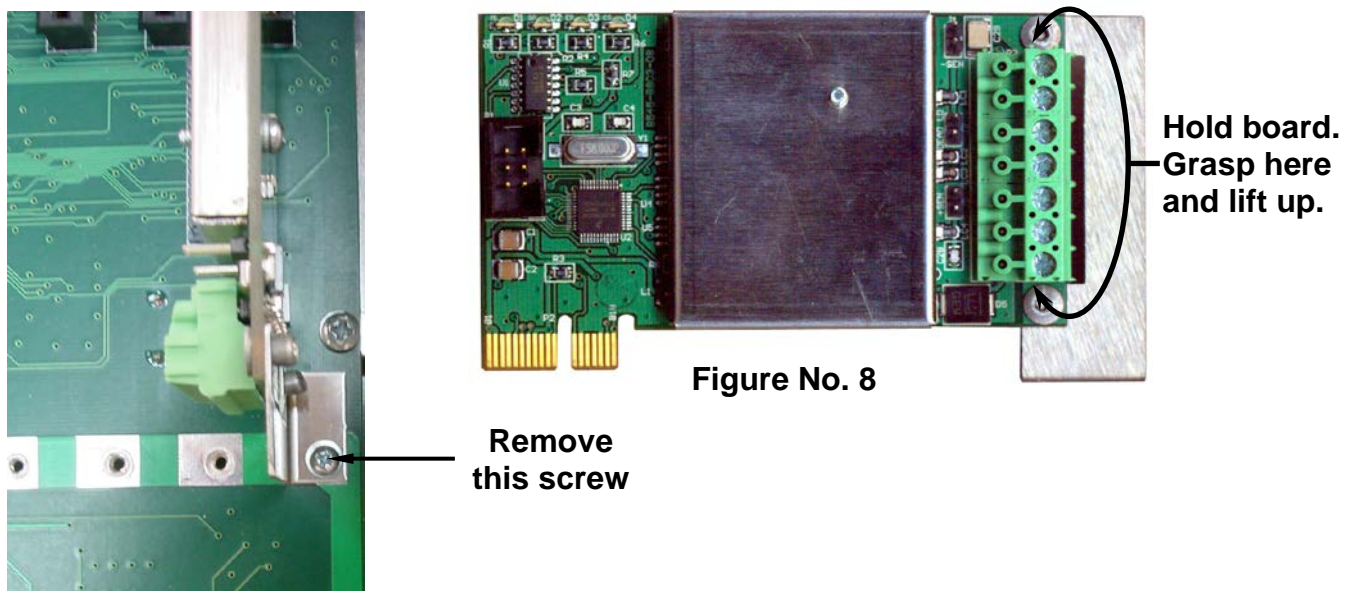

**Figure No. 5**
3. Referring to Figure No. 5, route the single cable from the load cell or load cell junction box through the nut and plastic insert and into the base enclosure.